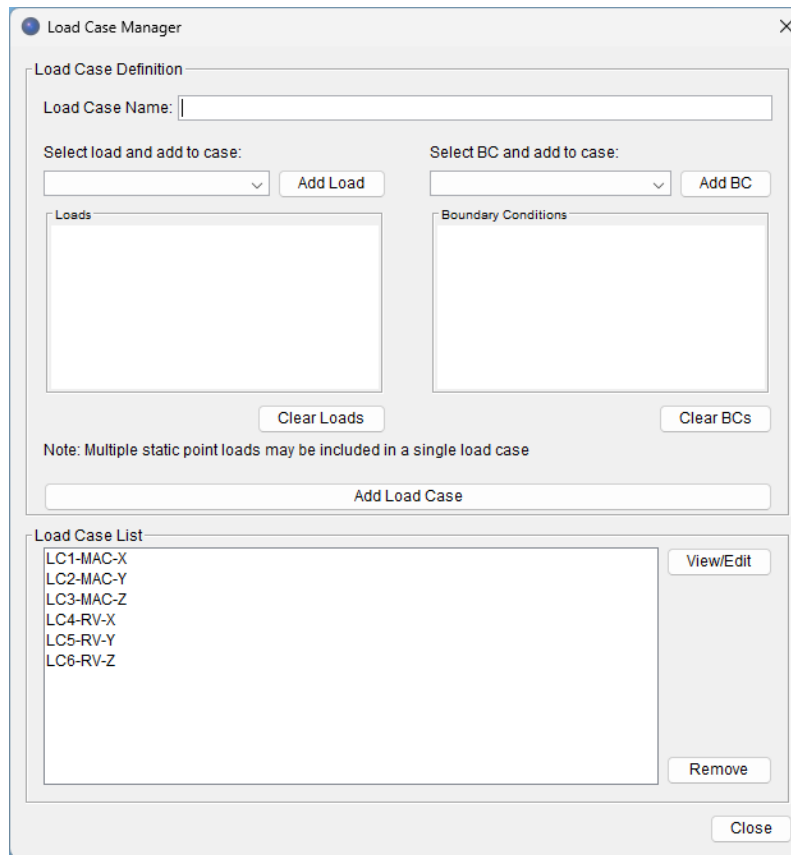

Figure 3-19. Load Case Manager
3. The Load Case Manager will then be shown per Figure 3-19, where the six load cases are defined. You can select a load case and click the **[View/Edit]** button to see how it is defined within the dialog. After reviewing the load cases select the **[Close]** button to exit from the load case manager.